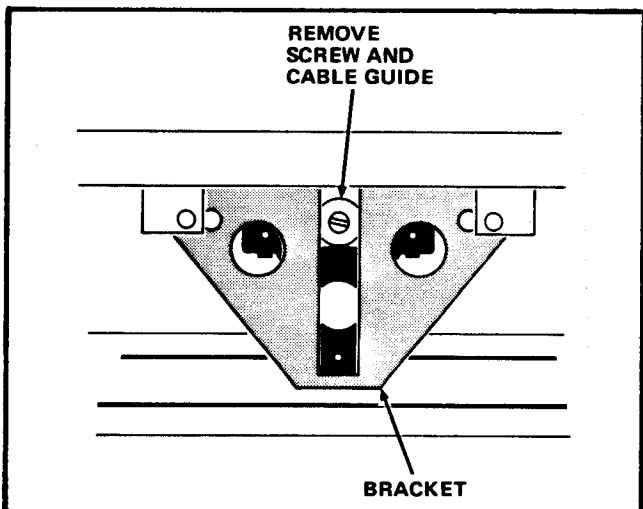

FIGURE 7
14. Remove the remaining Screw and Cable Guide from the Bracket and remove the Bracket from the Channel. See Figure 7.